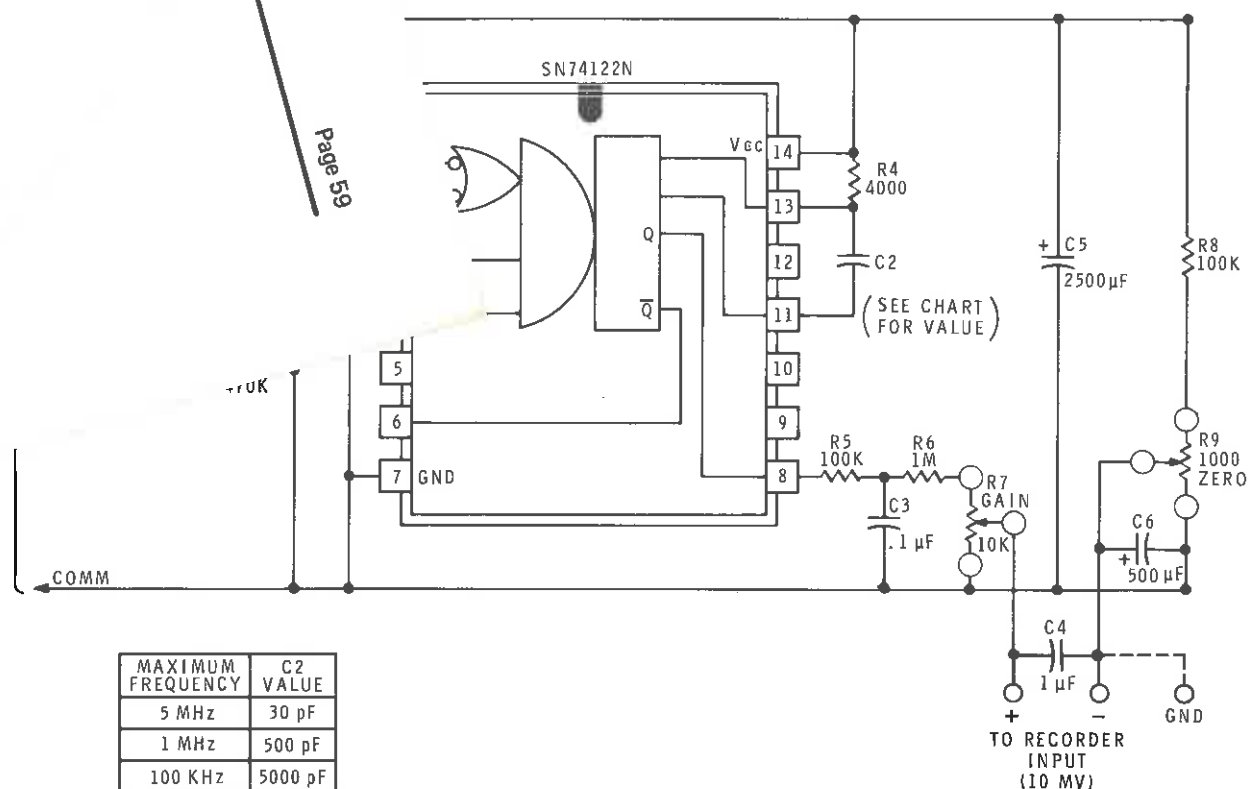

Figure 19
The circuit shown in Figure 19 will measure and record frequencies up to 5 MHz. Unknown frequencies are connected to the input of Q1. Q1 amplifies the input and provides low impedance drive to the integrated circuit.
1. Construct the circuit shown in Figure 19.